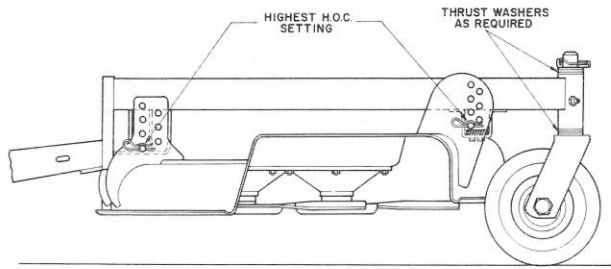

Figure 32
2. Check to make sure front height-of-cut pins are resting properly on frame cushions (Fig. 32). If pins are not resting properly, place a shim or shims under cushion to raise it for proper alignment.
3. Raise height-of-cut to 4 in. (102 mm) position (Fig. 32); refer to Adjusting Height-Of-Cut, page 8.
- A. Cutting units usually operated at 1 to 2 in. (25 to 51 mm) height-of-cut should have the low side of the cutting unit raised. Remove the lynch pin securing castor wheel on low end (Fig. 32) and remove castor assembly.
- B. Transfer one thrust washer from top side of castor shaft to lower side, install castor assembly and compare blade height of all blades; refer to items 3 through 6. Continue adding thrust washers if height still does not meet requirements.
- C. If cutting unit is operated at 2 to 4 in. (51 to 102 mm) height-of-cut, lower the high side of cutting unit. Remove lynch pin of castor at high end of unit and remove castor assembly (Fig. 32).
- D. Transfer one thrust washer from lower side of castor shaft to top side, install assembly and compare blade height of all blades; refer to items 3 through 6. Repeat procedure if height still does not meet requirements.